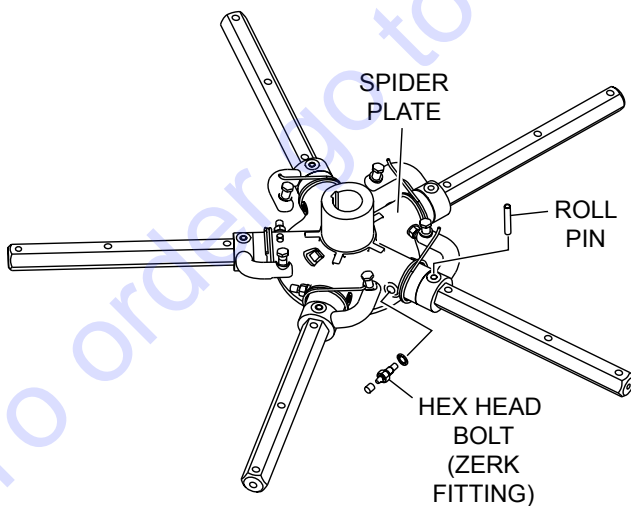

Figure 39. Remove Roll Pin and Zerk Fitting
2. Each trowel arm is held in place at the spider plate by a hex head bolt (zerk grease fitting) and a roll pin. Remove both the hex head bolt and the roll pin (Figure 39) from the spider plate.